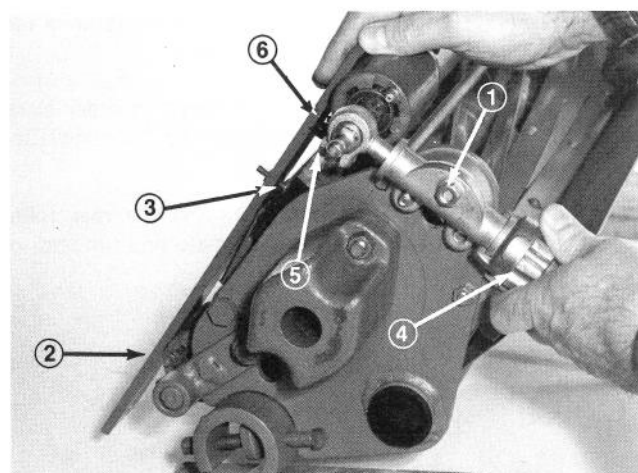

Figure 6
unit should be turned over and the locknuts on each end of the cutting unit securing the height of cut adjusting knob loosened (Fig. 6).
3. Place the bar across the front and rear rollers and adjust the height of cut knob until the underside of the screw head engages the bedknife cutting edge (Fig. 6).
1. Assure rear roller is in the desired height-of-cut position. Loosen the bolts anchoring the front roller shaft. Rotate the shaft (Fig. 6).
3. Tighten the roller shaft bolts (Fig. 6).